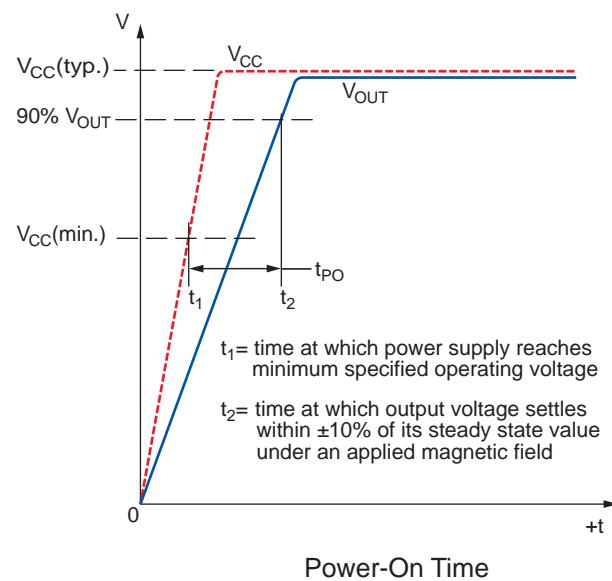

Figure 2.  $V_{CC}$  and  $V_{OUT}$  during power-on time interval
**Power-On Time** When the supply is ramped to its operating voltage, the device requires a finite time to power its internal components before responding to an input magnetic field. Power-On Time,  $t_{PO}$ , is defined as: the time it takes for the output voltage to settle within  $\pm 10\%$  of its steady state value under an applied magnetic field, after the power supply has reached its minimum specified operating voltage,  $V_{CC(\min)}$ , as shown in figure 2.